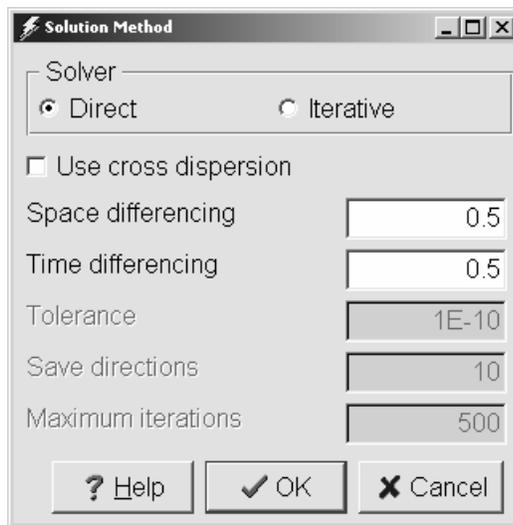

Figure 39. Solution Method dialog boxes showing how to set up the solution method for example 1.
18. The next step is to set up the solution method. Select **PHAST Options|Solution Method...** Click the **Direct** radio button and set the **Space differencing** and **Time differencing** both to 0.5 (fig. 39). Click **OK** to close the dialog box.